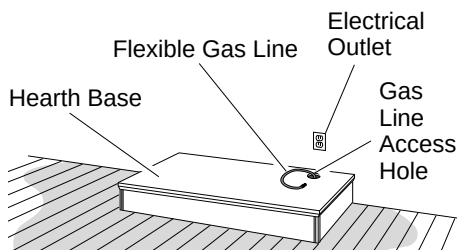

Figure 12 - Placing Hearth Base Accessory Against Wall
4. Place hearth base accessory against wall at installation location. Cut an access hole in hearth top to run flexible gas line to firebox (see Figure 12). Make sure to locate access hole so cabinet mantel will cover it when installed. **Note:** You can secure base to floor using wood screws. Countersink screw heads and putty over.